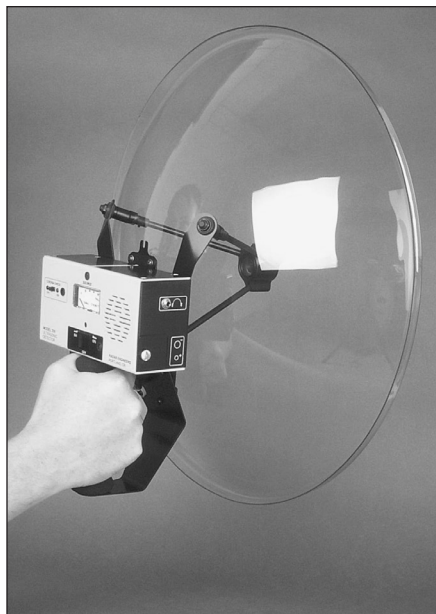

Figure 27.36 — The clear plastic parabolic dish is an “ear” connected to an ultrasonic detector that lets utility personnel listen for the sound of arcs.
- An ultrasonic dish or pinpointer. The RFI investigator, even if not a lineman, can pinpoint sources on the structure down to a component level from the ground using this instrument. See **Figure 27.36**.